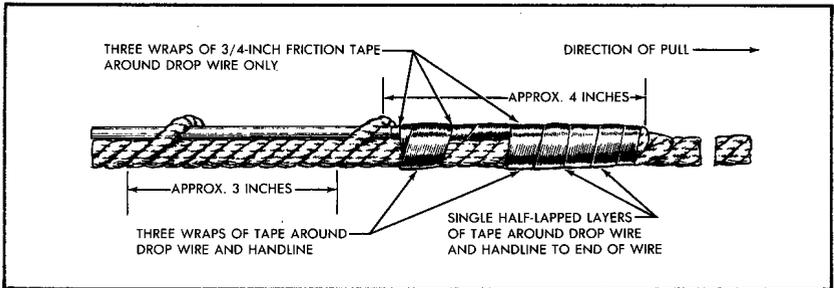

FIGURE 5. Fastening Handline to Prevent Snagging
*NOTE: If the handline has been placed over a drive hook or other support on which the square knot would snag, fasten the wire to the handline as shown in Figure 5.*